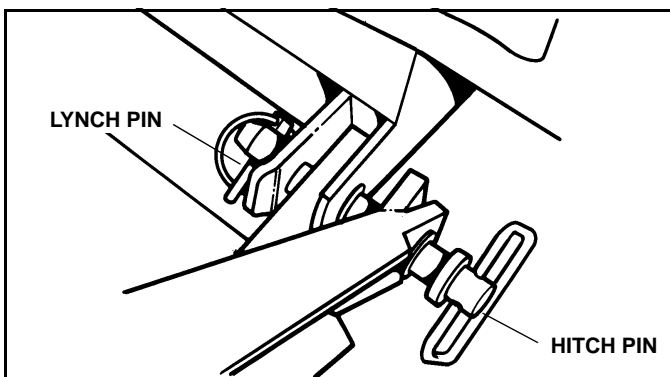

Figure 2-5
9. Align A-frame and vehicle mounting lugs and install two (2) lower outboard pivot Hitch Pins. Install Lynch Pins into Hitch Pins to secure them in place. (See Figure 2-5)